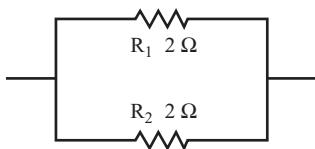

FIGURE 1.4
- 10 You can connect resistors in parallel, as shown in Figure 1.4.